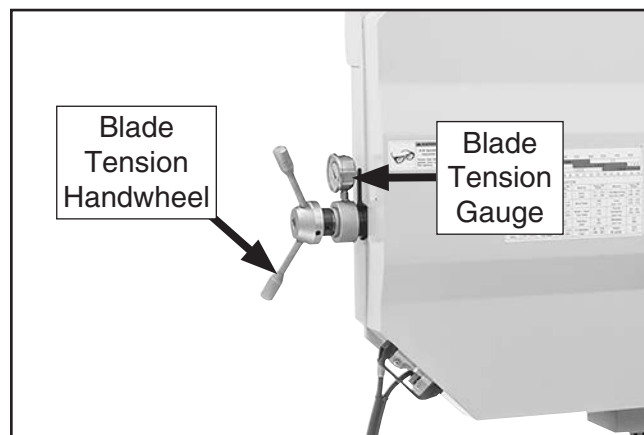

Figure 110. Blade tension handwheel and gauge components.
1. Turn blade tension handwheel counterclockwise to loosen blade until indicator on blade tension gauge moves out of green section (see **Figure 110**).